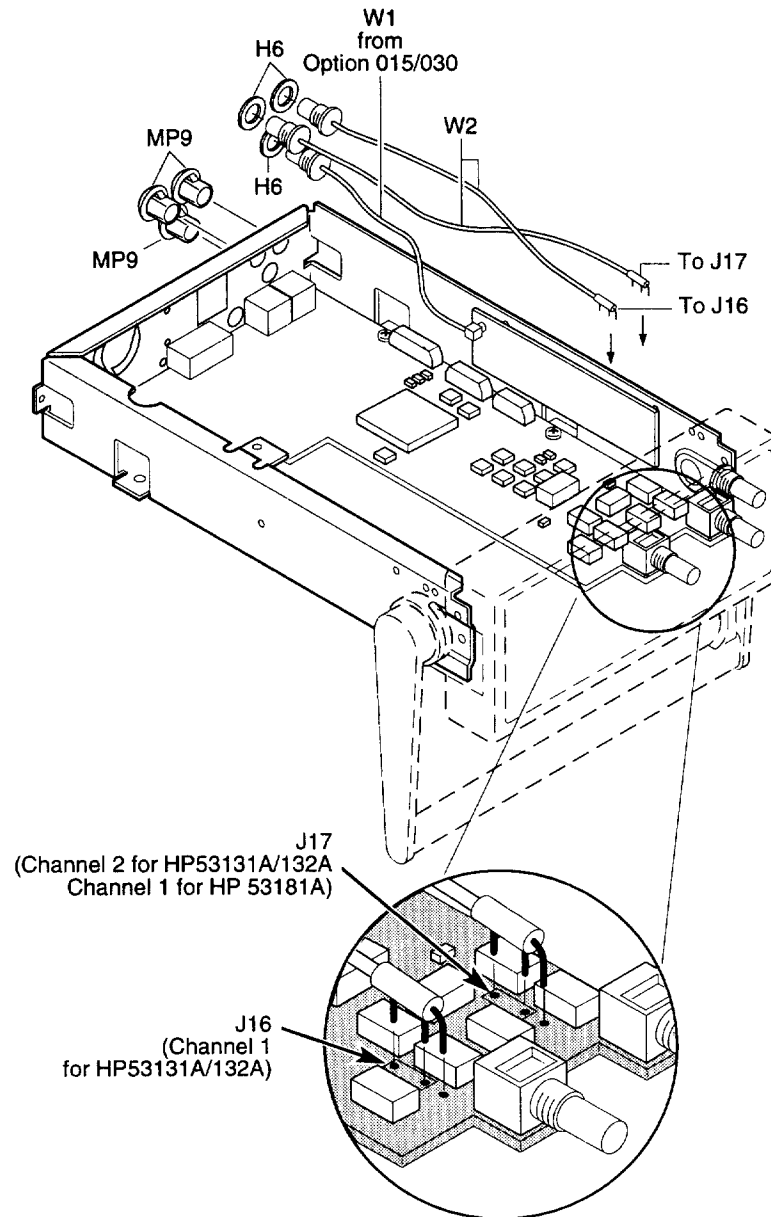

Figure 4-4B. Rear Terminals Retrofitting
- 3 Remove the side of the optional channel (Option 015/030) coaxial cable (W1) that is connected to the front-panel and insert it through the appropriate rear *INPUTS* opening (3 for HP 53131A/132A; 2 for HP 53181A) as shown in Figure 4-4B.
For the HP 53131A/132A solder the rear chassis **INPUTS 1** cable to J16 and **INPUTS 2** to J17. (See Figure 4-4B.)
For the HP 53181A solder the rear chassis **INPUTS 1** cable to J17. (See Figure 4-4B.)